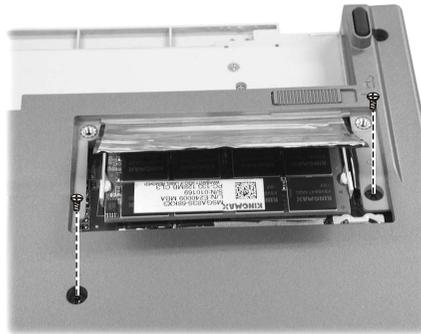

Figure 2-7 Remove two screws
3. Put the notebook upside down. Remove the SO-DIMM compartment cover and then two screws that secure the keyboard (one is in the compartment, the other one is in the central position of the bottom). (See Figure 2-7)